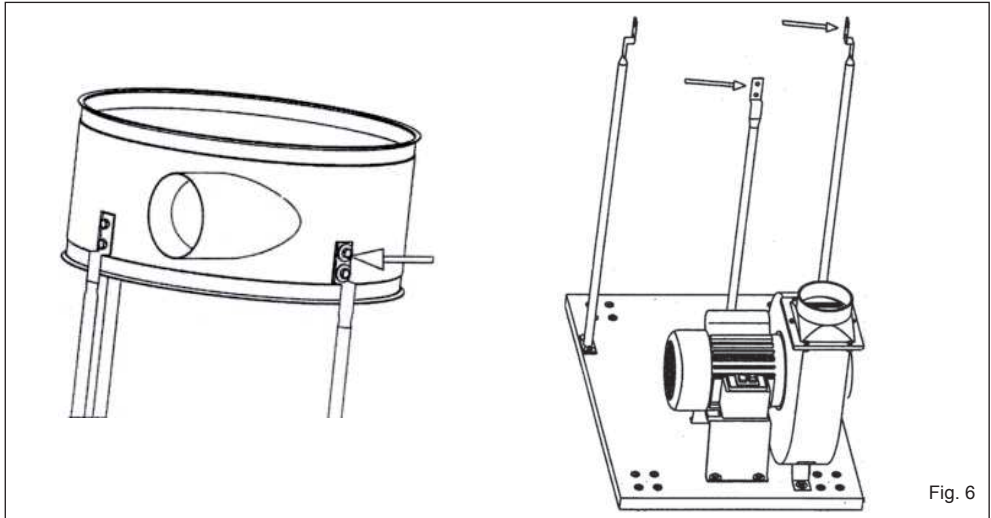

Fig. 6
5. Secure the motor/drum assembly, the bag hook and the stanchions using the relative screws, nuts and washers (**Fig. 6**).